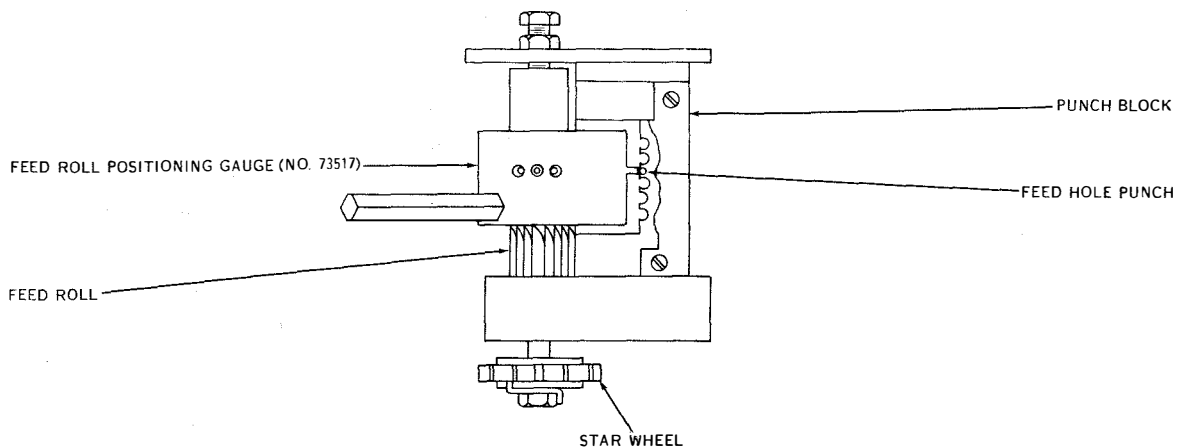

Figure 7-57. Feed Roll Detent
(65) FEED ROLL DETENT (FINAL). (See figure 7-57.)—The perforations in the tape should meet the standard spacing of ten holes to the inch. To check, perforate the length of tape with a series of nine BLANK combinations followed by a LETTERS combination and check it against the No. 2215 tape gauge. To adjust, refine the adjustment of the feed roll detent eccentric.